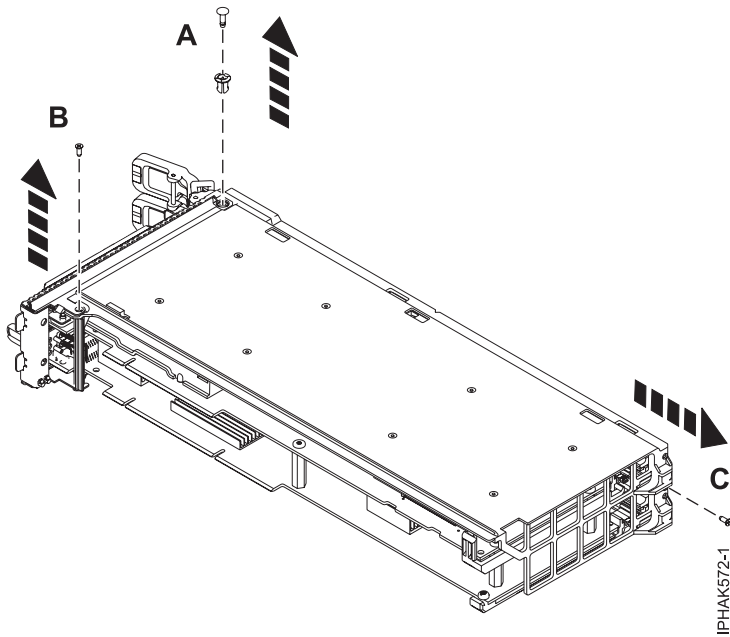

Figure 68. Removing the push pin and screws
3. Remove the push pin (A) from the top of cassette assembly by the tail stock. See Figure 68 on page 81.
4. Remove the screw (B) from the bottom of the tail stock. See Figure 68.
5. Remove the screw (C) from the rear of the cassette assembly. See Figure 68.